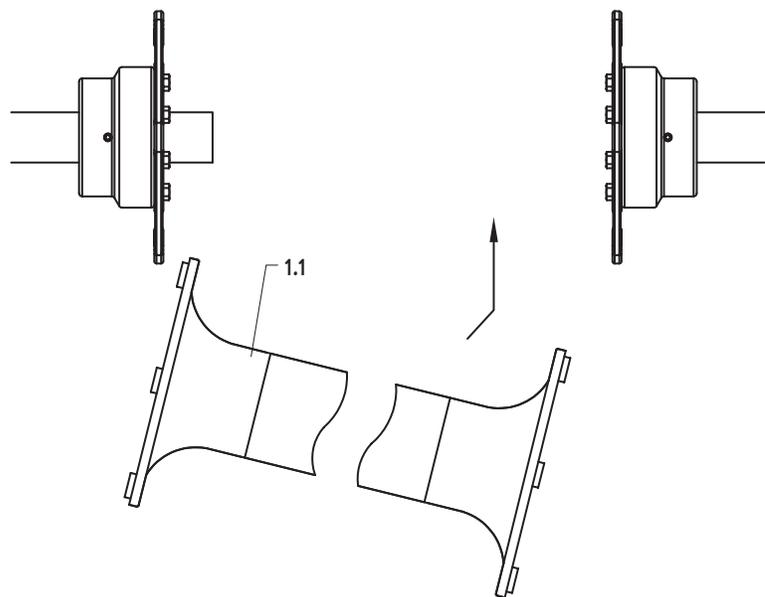

Figure 4
5. Lift the tube and flange assembly into place as shown in **Figure 4** and support approximately level. Ensure flanges are oriented near the correct hubs (refer to match-marks).